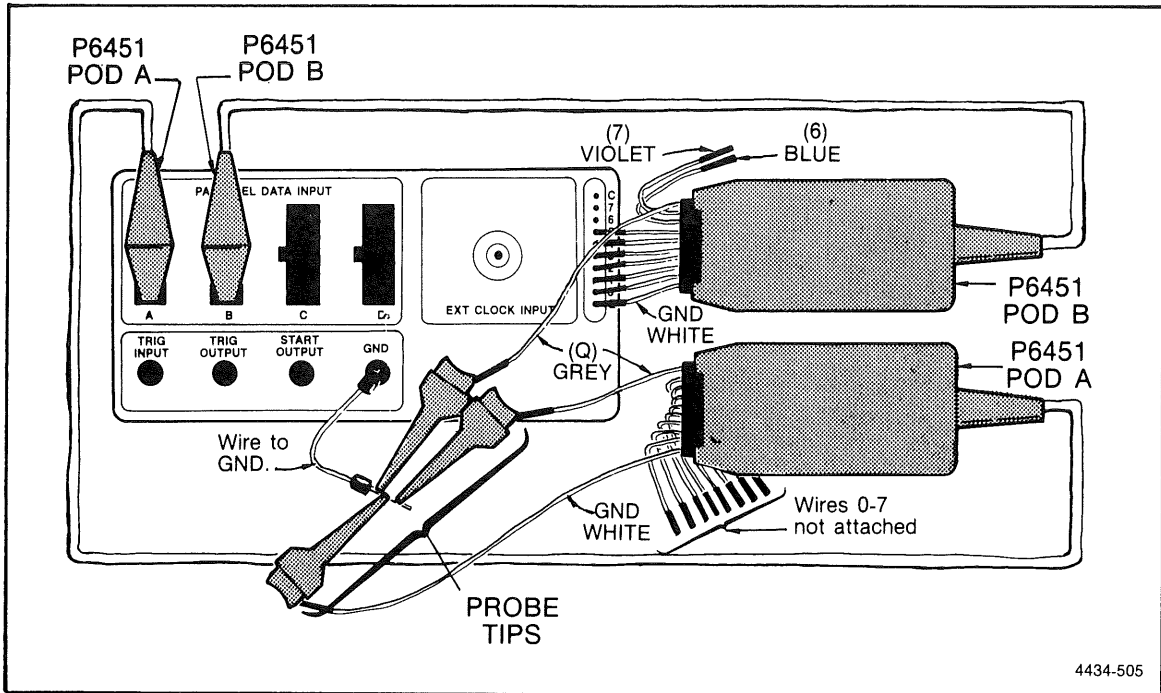

Figure 2-11. 318A Trigger qualifier check setup.
- a. Refer to Figure 2-11. Connect the data leads of the P6451 Parallel Data probe in Pod B to TEST OUTPUT as follows: